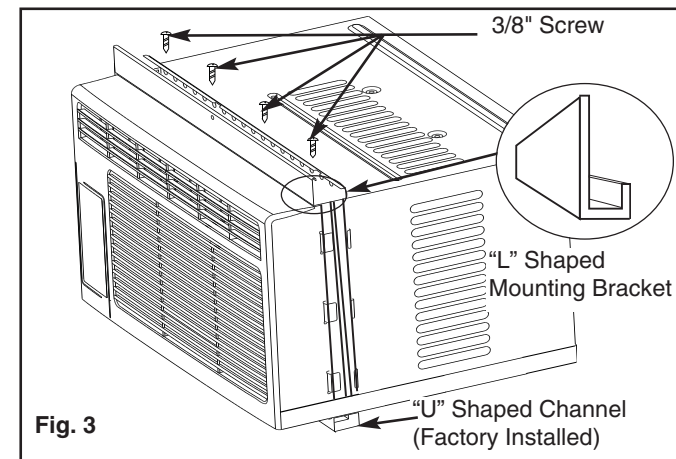

Fig. 3
- "L" Shaped Top Channel: Install the "L" shaped channel to the top of the cabinet as shown in Fig. 3 using four (4) 3/8" screws.